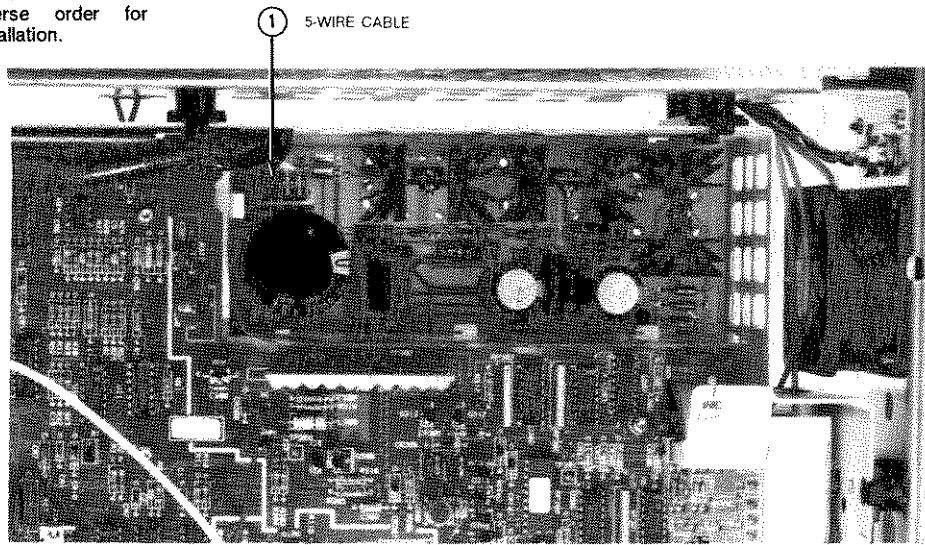

Figure 3-12. Remove/Install Transformer Cable on Inguard Power Supply
in Figures 3-12
3. Refer to Figure 3-12. Unplug the 5 wire cable from the Inguard Power Supply assembly. This cable is connected to the power transformer.
7. Refer to Figure 3-12. Locate the cable connected to the power transformer. Line up the cable plug with the socket on the Inguard Power Supply assembly. Then plug the cable in.